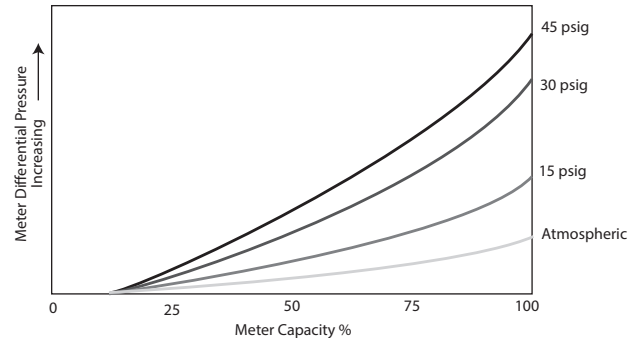

Figure 22 - Differential Curves change as pressure increases.
Developing an original differential baseline curve is recommended when the meter is first installed. Since any change in flow rate, line pressure or specific gravity will cause a change in the differential, at least three (3) test points are required at gas flow rates from 25% to 100% of meter capacity. (As shown in Figure 22, the resulting points will be non-linear, so a minimum of three points is necessary to establish a curve.) Plot the points on a graph and then connect the points to form a curve. This provides an accurate baseline for comparison to later tests. To help with record keeping, a data chart like the one shown in Figure 23 will allow the technician to compare new test data to older data. A test under actual operating conditions will provide the most reliable data for future checks of a meter’s operating condition. This is particularly important when the line pressure is higher than 15 PSIG (200 kPa Absolute). Since meter differential pressure increases with line pressure, multiple curves may be necessary for meters under varying line pressure conditions.